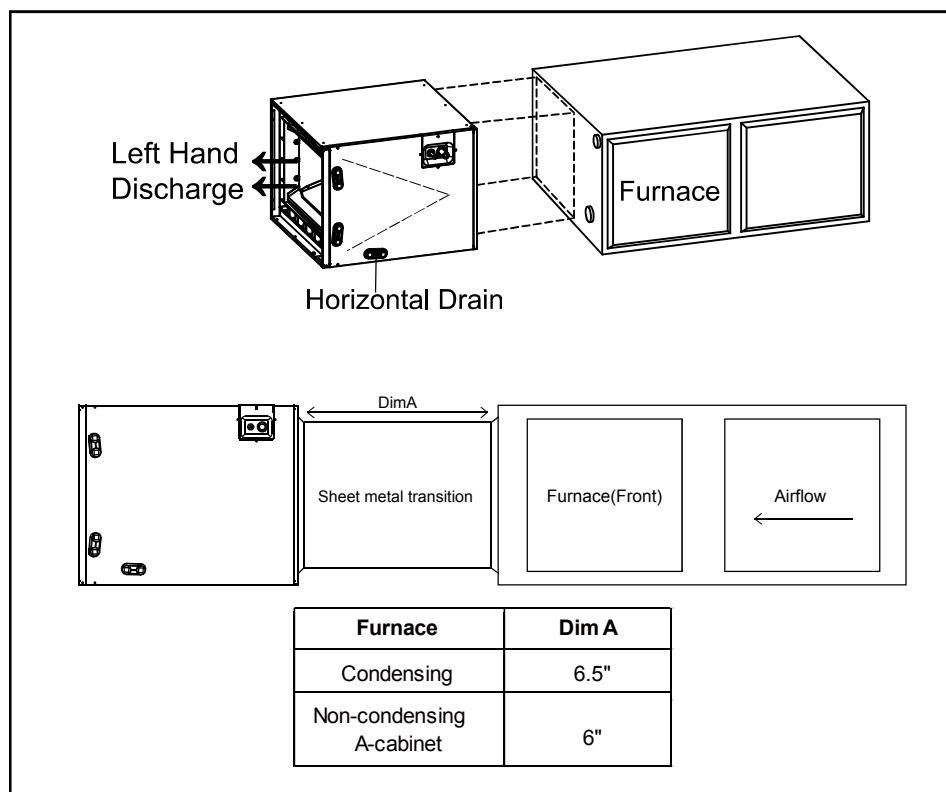

Figure 5. Transition for horizontal left orientation.
3. If the coil is used in connection with an upflow furnace in horizontal left orientation, a sheet metal transition can be installed between the furnace supply air outlet and the evaporator coil supply air inlet to create clearance between coil lineset and furnace flue outlet for A-cabinet non-condensing furnaces and for all cabinet size condensing furnaces. See Figure 5.
Install a trap in the drain line below the bottom of the drain pan. If using a copper drain line, solder a short piece of pipe to the connector before installing a drain fitting. DO NOT over torque the 3/4" copper connector to the plastic drain connection. Use a wet rag or heatsink material on the short piece to protect plastic drain pan, complete the drain line installation (Fig.5). Use (Fig.6) as a template for typical drain pipe routing. This figure shows how to avoid interference with vent piping.